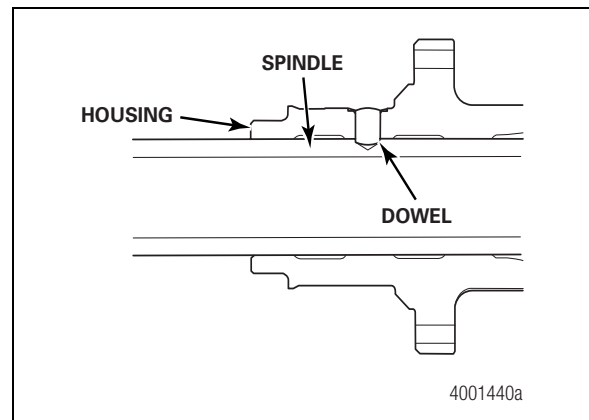

Figure 5.15
10. Install a dowel into the housing and the spindle. Figure 5.15.